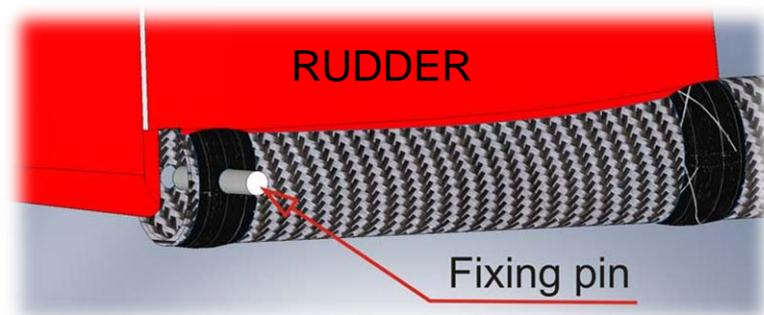

Figure 14: Shows the Rudder fixing pin location
2. Slide the Rudder onto the Carbon Boom and align the hole in the Rudder mount with the fixing pin hole in the Carbon Boom as shown in figure 14.